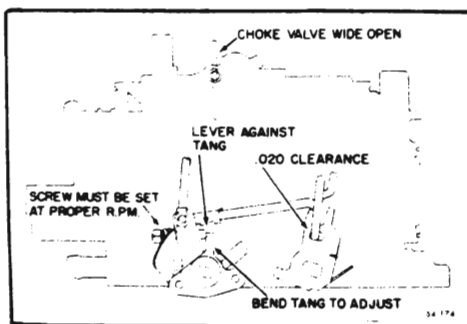

Figure 64-49 - Secondary Closing Adjustment
2. Check for .020 clearance between actuating link and front of slot in secondary lever with tang of actuating lever against pin. See Figure 64-49.